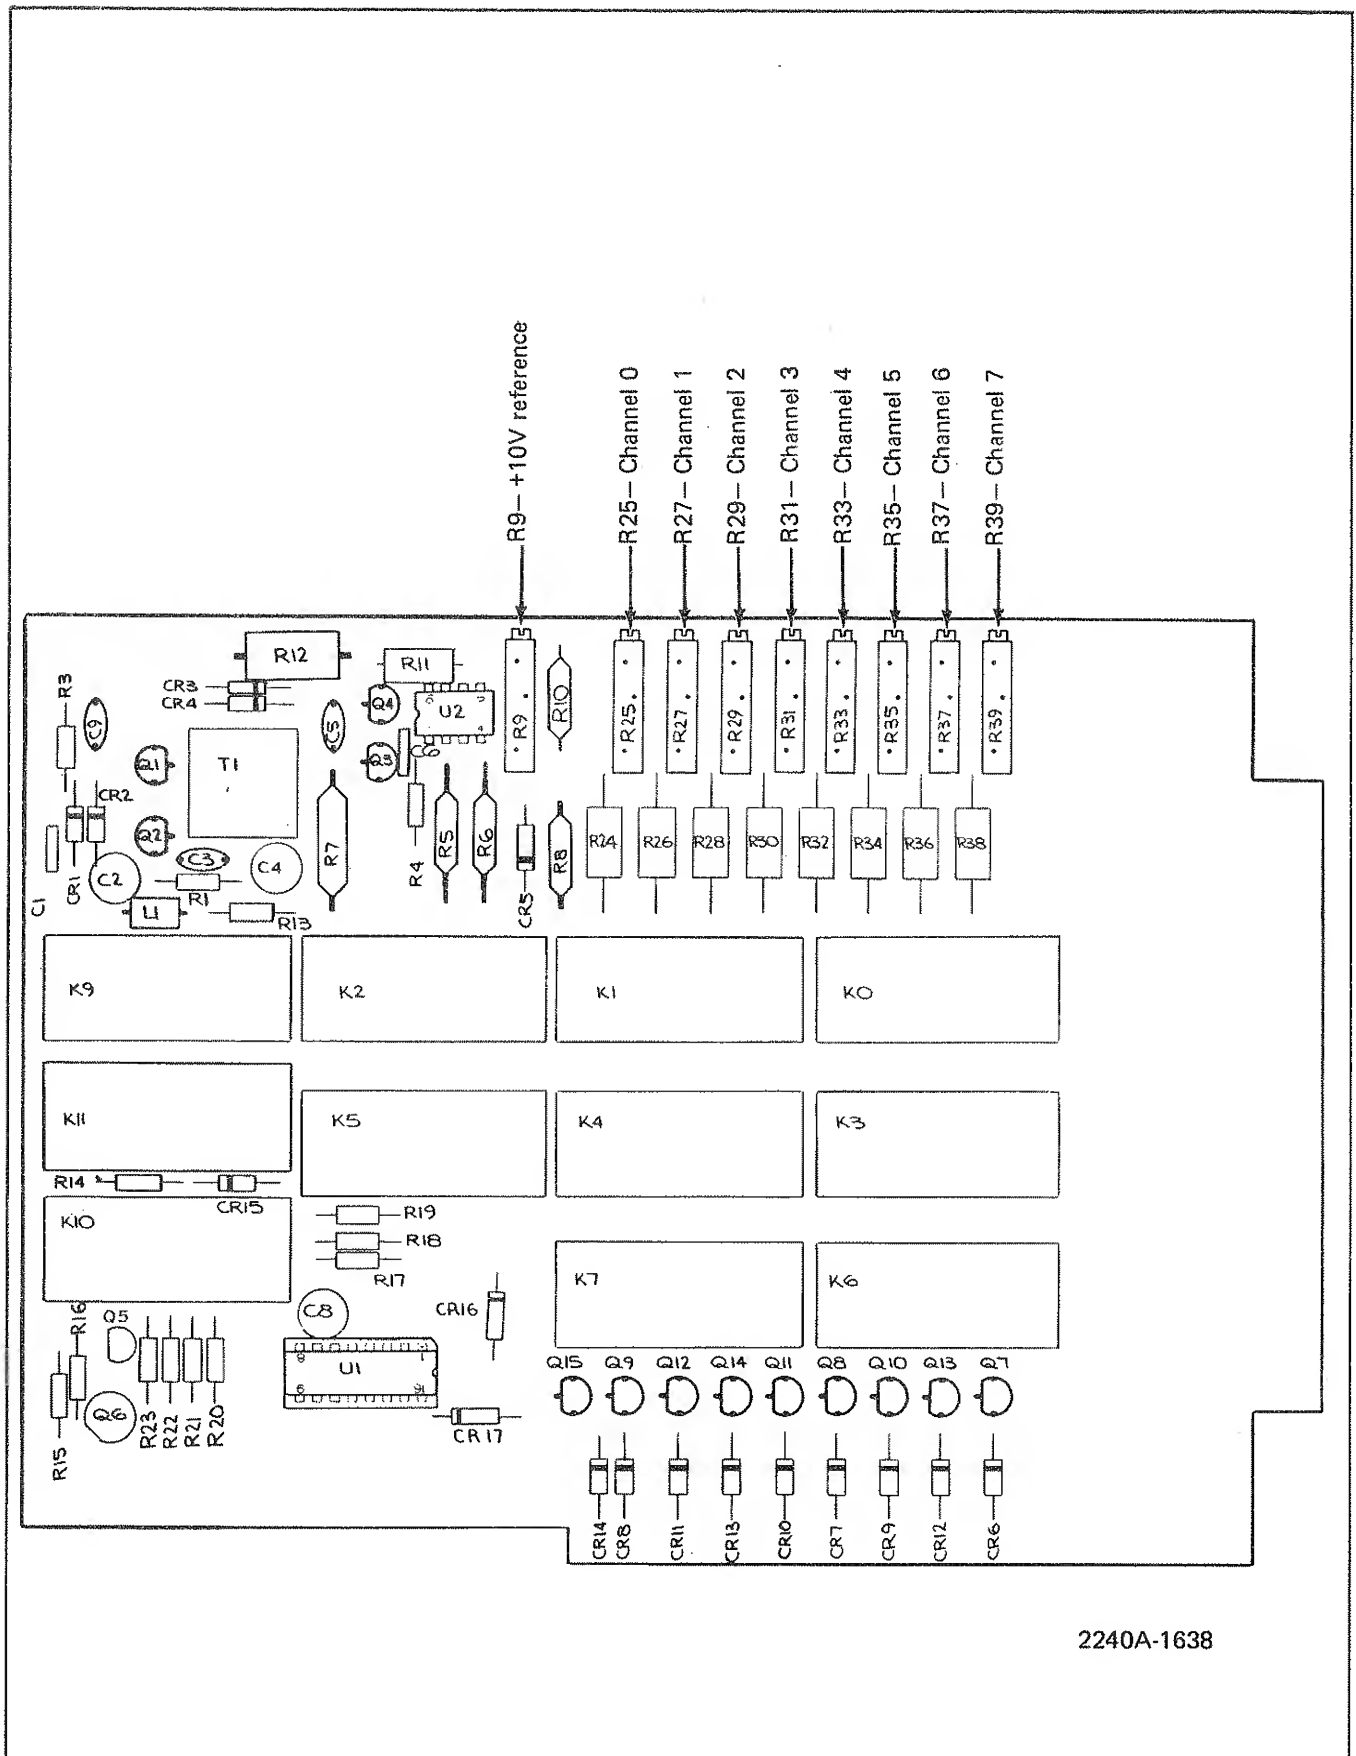

Figure 633-4. Eight Channel RTD Scanner PCB Assembly
(1) Used only in Performance Test
(2) Used only in Calibration Adjustments Procedure
9. Refer to Figure 633-4 and verify that the channel 0 potentiometer (R25) can be adjusted over a minimum range of 99.1 to 100.9 mV. Leave the adjustment set for a data logger reading of 100.00 mV.
633-29. The Eight Channel RTD Scanner should be calibrated when it is initially installed in a data logger, and whenever the data logger is calibrated. Calibration adjustments for the scanner are shown in Figure 633-4. See Table 633-2 for the required test equipment. The procedure assumes that the data logger and the A/D Converter calibration procedures have been completed and that the scanner is installed in its assigned location.
5. Monitor each scanner channel and adjust the appropriate potentiometer (see Figure 633-4) for a reading of  $00.0^{\circ}C$  ( $32.0^{\circ}F$ ) on the RTD measurement function or 100.00 on the 400 mV range.